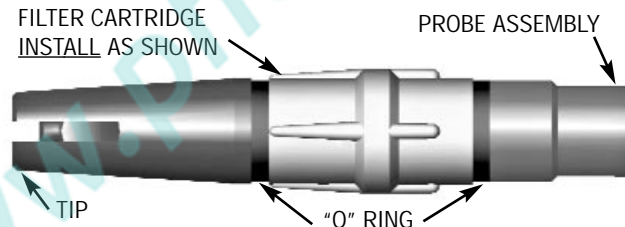

FIG 9
The pointed tip of the flexible probe is removable for cleaning and access to the filter cartridge. (see Figure 9). Once the tip is removed access to the filter cartridge is possible.
- C. Install new filter cartridge on to the probe, as pictured Fig.9, with "pointed" end of the raised ribs toward tip.